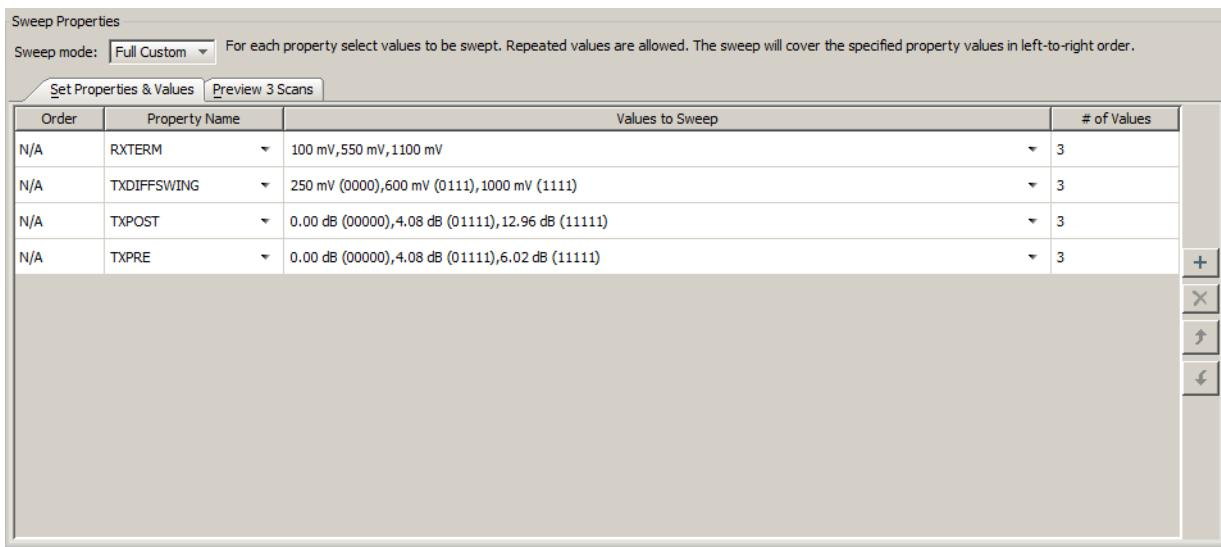

Figure 12-8: Sweep Properties Dialog Box
- In the Semi Custom case shown in Figure 12-8, every combination of the properties chosen is defined for a single scan, and that scan is performed according to the sweep properties. The number of sweeps that are performed, and in what order can be previewed by selecting the **Preview & Scans** tab.